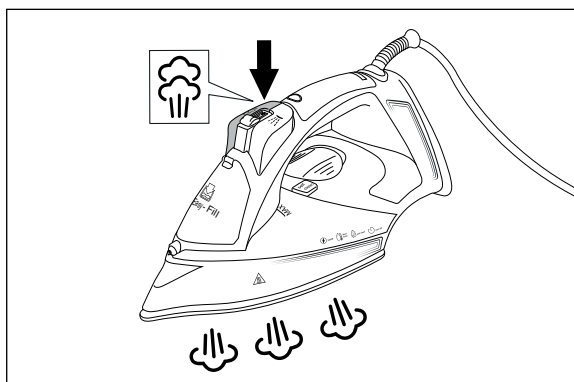

Fig. 6
- 3) Briefly press the steam blast button  **4** several times at intervals of approx. 5 seconds (see Fig. 6).
- 5) Point the water jet **1** at a towel and press the button for the spray function **5** about 20 times (see Fig. 6).
- 9) To decalcify the soleplate ⑪, place the steam iron in a shallow, sufficiently large container (e.g. a shallow bowl). You have previously put the remaining descaling mixture into this container (see step 3).
- 12) Put fresh water in the container and dip the soleplate ⑪ in a few times to rinse it off.
- 13) Remove the steam iron from the container and dry the soleplate ⑪ with a soft cloth.
- ▶ After descaling the steam iron, always carry out two rinsing cycles using the **self clean** button ⑫. Without a subsequent thorough rinsing of the water tank ⑬ with tap water or distilled water, the use of a descaling agent is not suitable.